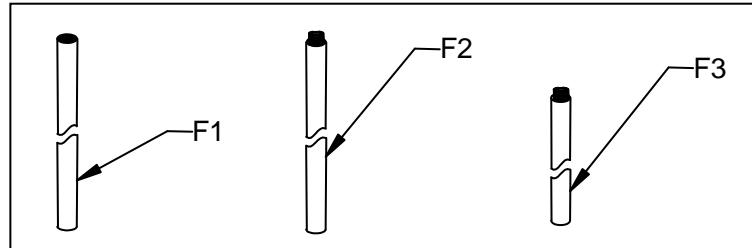

Fig.4
## Assembly the Fixture (Fig. 4)
3. Slide the glass panel (M) into the fixture body (K) from the bottom side.
4. Align the screws on glass panel (M) to the holes (H1 & H2) on fixture body (K) and secure with nuts (L) (Fig. 4). The side of the glass with the arrow must face up.